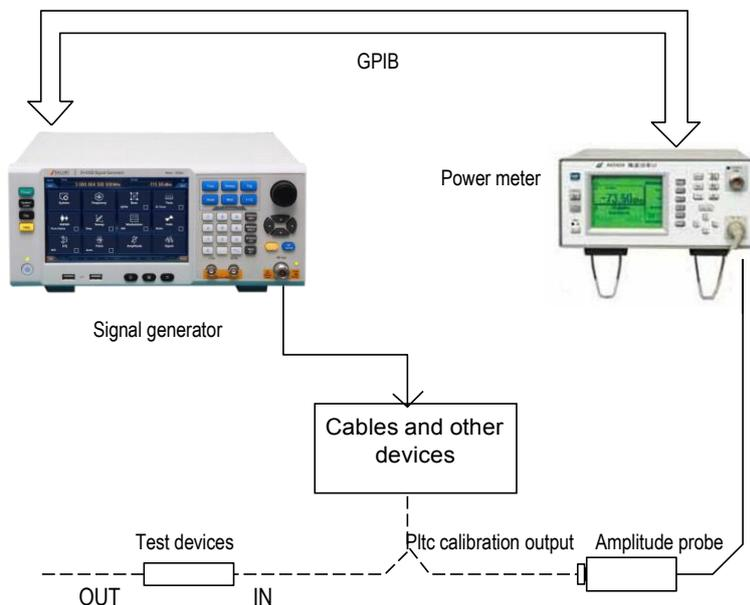

Figure 3.15 User Pltc
Step 1. Connect the instrument as per Figure 3.15.